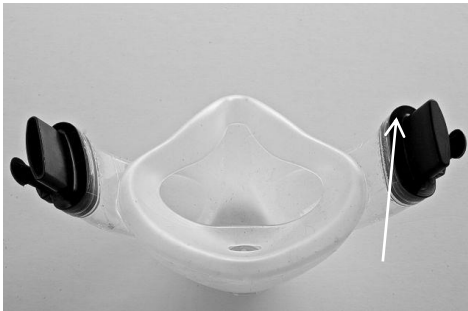

Figure 6 - Right Hand (closed) Mask AirClip
*Examine the mask AirClips. One is open and one is closed. Find the one that is **closed**. Seen from above it is on the right-hand side. See Figure 6.*